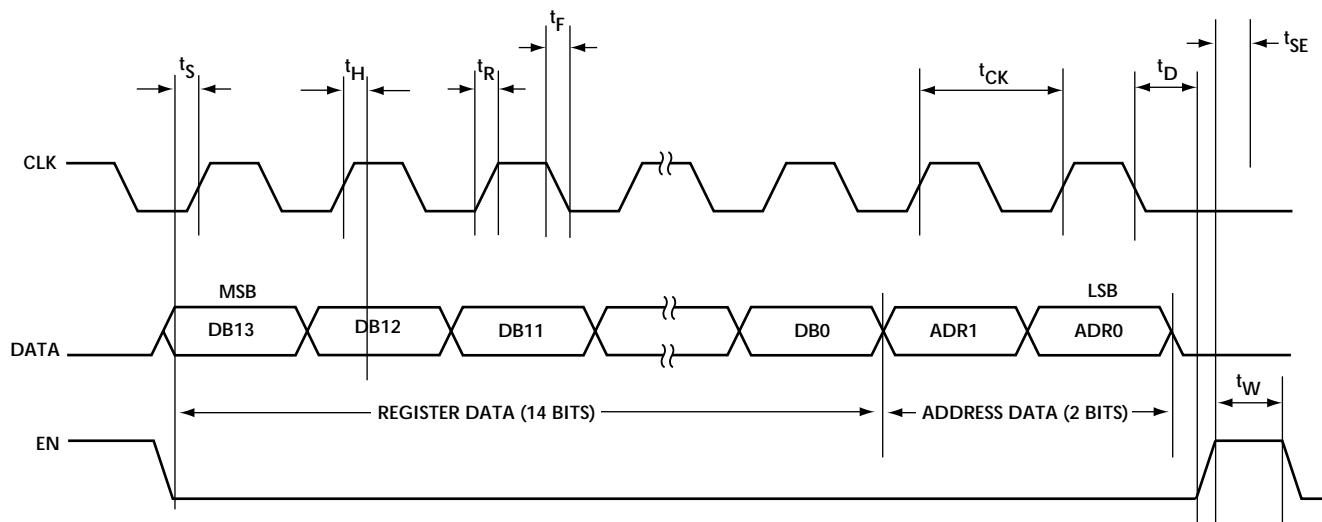

Figure 11. Serial Bus Timing for Address and Data Programming
Data and clock signals are ignored when EN is high. When EN is low data on the DATA pin is clocked into a shift register by rising edges on the CLK pin. The information is latched when EN goes high. This serial interface bus is similar to that commonly found on PLL devices. It can be efficiently programmed by either byte or 16-bit word oriented serial bus hardware. The data latches are implemented in static CMOS and use minimal power when the bus is inactive. Figure 11 and Table 9 provide timing and register programming illustrations.
Each of the three registers are identically configured. Each is divided into a fourteen (14) bit data field and a two (2) bit address field. The sixteen bits are input serially (see Figure 11) with the fourteen data bits, most significant bit (DB13) first followed by the two address bits, most significant bit (ADR1) first. The last sixteen bits clocked into the ML2725 will be loaded into the specified register. Loading less than sixteen bits into any register will cause unpredictable device functionality.